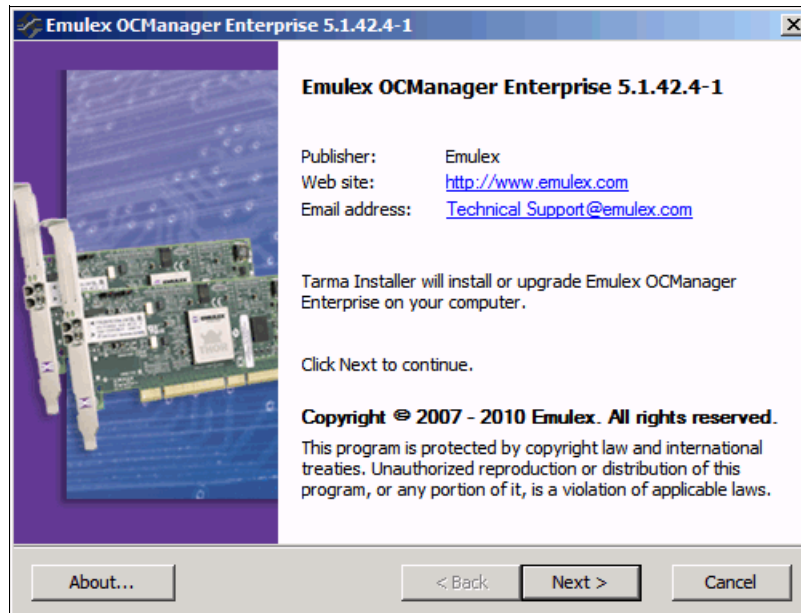

Figure 7-24 Emulex OCManger Enterprise window
4. In the Emulex OCManger Enterprise window (Figure 7-24), click **Next**.